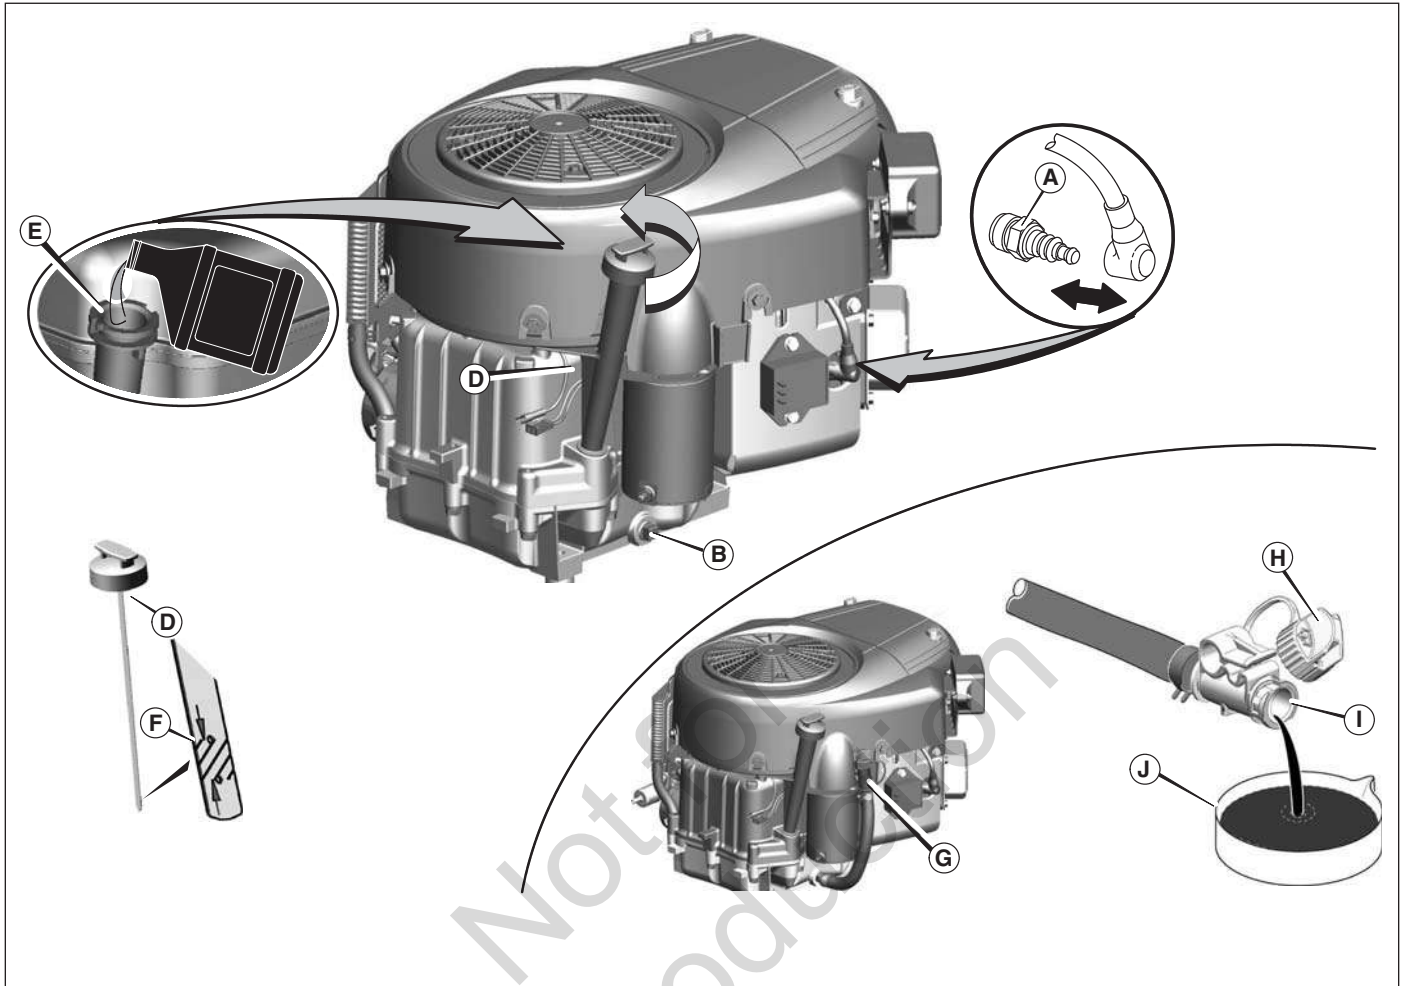

Figure 13
1. With engine off but still warm, disconnect the spark plug wire (A, Figure 13) and keep it away from the spark plug.
2. Remove the dipstick (D).
1. Remove the oil drain plug (B, Figure 13). Drain the oil into an approved container.
1. Disconnect the oil drain hose (G, Figure 13) from the side of the engine.
2. Turn and remove the oil drain cap (H). Carefully lower the quick oil drain (I) into an approved container (J).
1. Remove the dipstick (**D**, Figure 13) and wipe with a clean cloth.